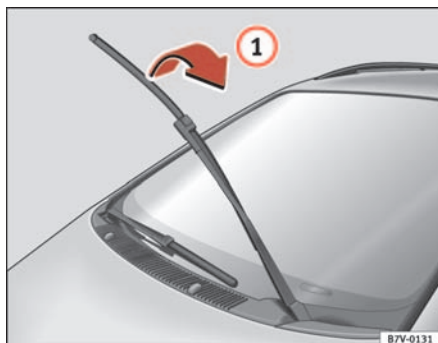
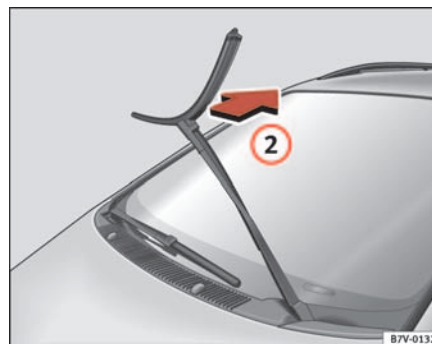

Fig. 146 Windscreen wipers raised
Fig. 147 Removing front wipers
- Turn the wiper blade as shown by arrow ⇒ fig. 146  as far as it will go and then pull it off as shown by arrow ⇒ fig. 147 .